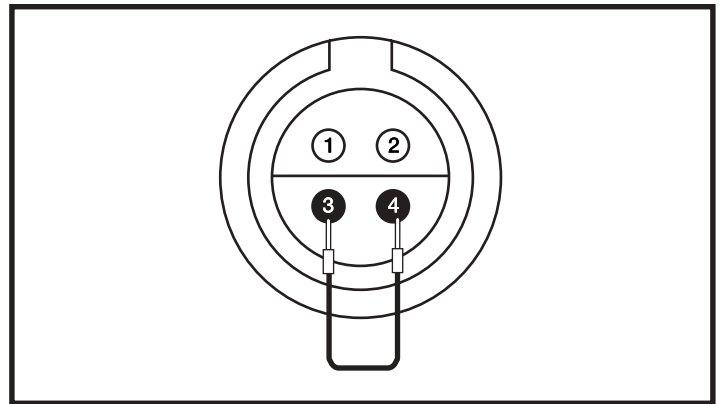
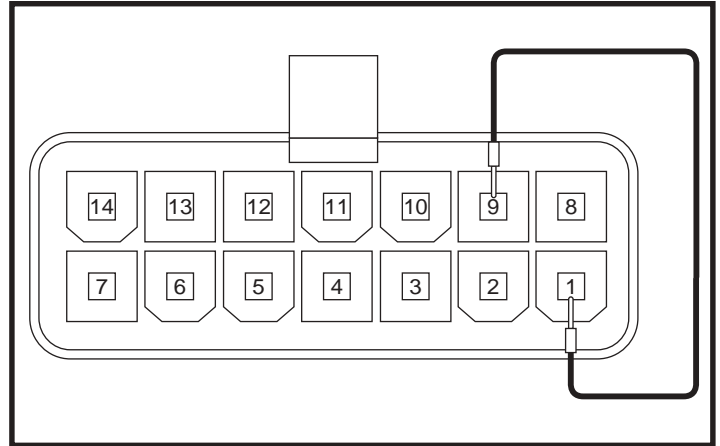
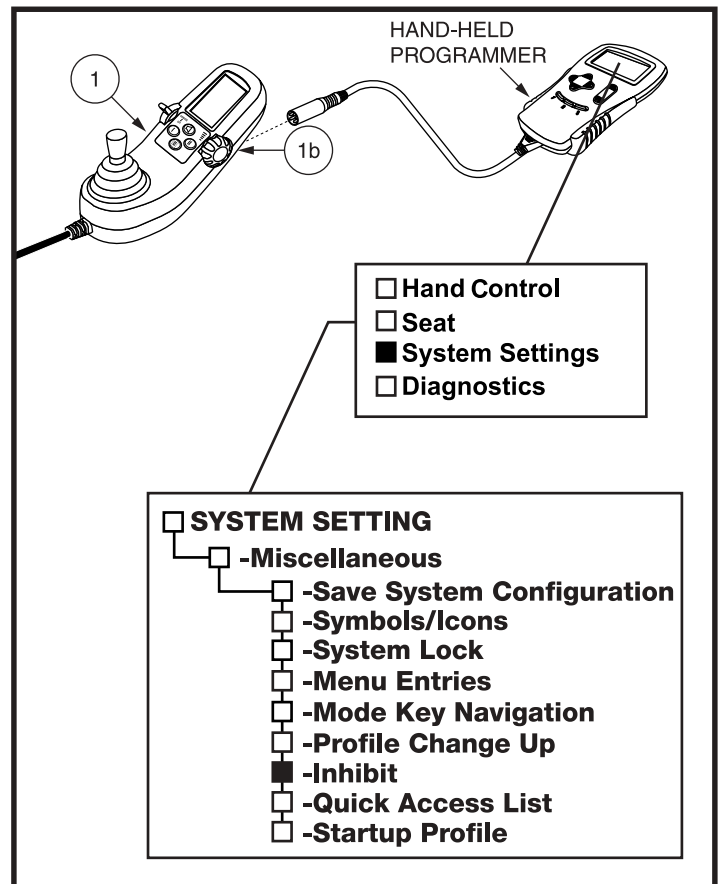

Figure 12. Connector 4a
Figure 13. Connector 2e
Figure 14. Inhibit Controller Programming
2. Place a jumper between pin 3 and 4 of connector 4a. See **figure 12**.
- If the power chair drives and is not equipped with a power positioning system, then replace the run plug (11).
4. Place a jumper from pin 1 to pin 9 on connector 2e. See **figure 13**.
- If power chair drives, then replace the power take off/inhibit harness (4) (or 14-pin run plug (4c) if equipped) and retest the system.
- If the power chair does not drive, the power module may be programmed incorrectly. Verify the inhibit program. See **figure 14**. The inhibit should be set to “high.”
- If the power chair does not drive and the inhibit program was verified, then replace the power module (2) and retest the system.